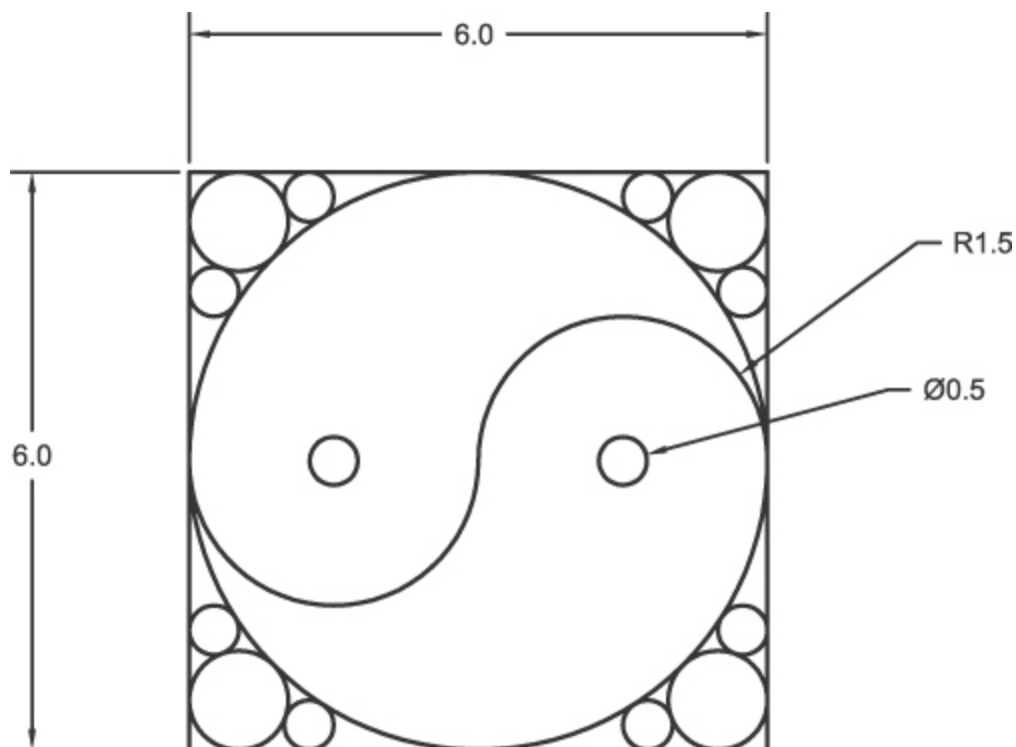

Figure 4-36
2. Draw the lines, circles, and arcs shown in Figure 4-36. **Do not** draw dimensions. *Hint:* Use the **Tan, Tan, Tan** circle option to place the corner circles.